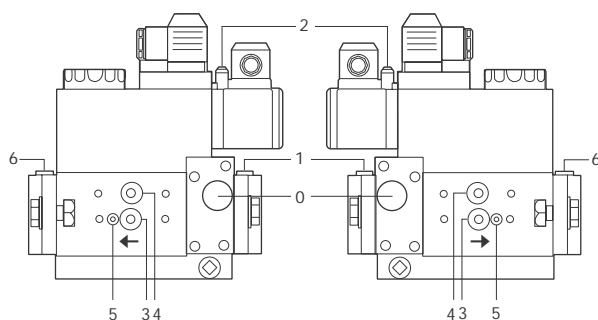
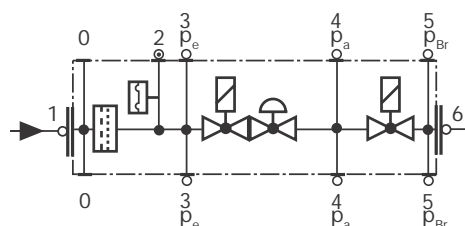

Fig. 25
Fig. 26
- Clean and examining the gas filter cartdrige, if necessary replace it (Fig. 25 on).
- Change the filter if the pressure difference between pressure connection 1 and 3 (Fig. 25-Fig. 26) is $Dp > 10$ mbar.
- Change the filter if the pressure difference between pressure connection 1 and 3 (Fig. 25-Fig. 26) is twice as high compared to the last check.